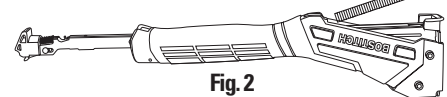

Fig. 2
2. Place up to 2 sticks of staples in bottom channel as shown in fig. 2 so staple legs are pointed up. Slide 1st stick back into tool, load 2nd stick.